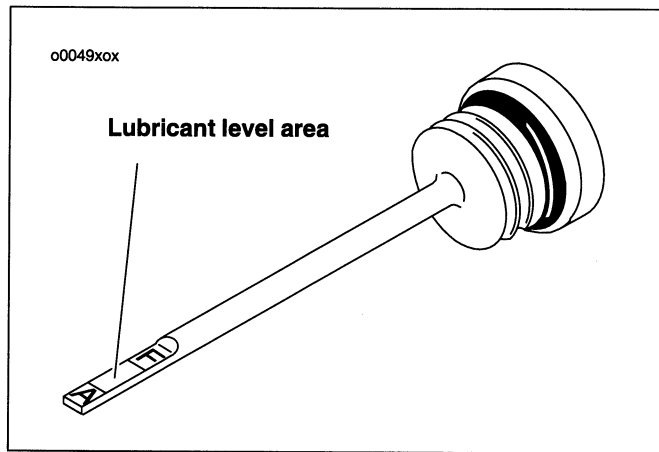

Figure 32. Transmission Lubricant Dipstick
See Figure 32. The transmission lubricant level should be checked monthly.
1. See Figure 32. Remove the threaded filler plug.